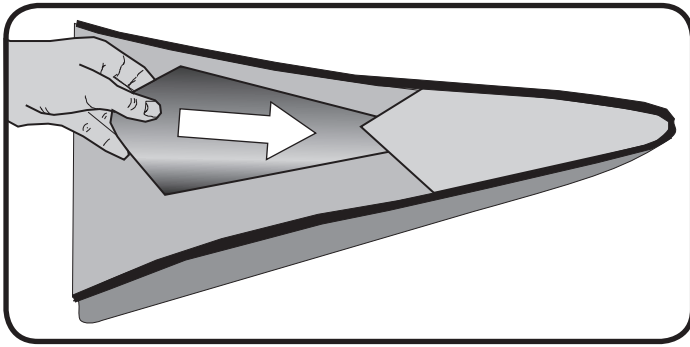

Figure 3. Plastic Bow and Stern Insert
7. Finally, Insert Plastic Bow and Stern forms into pocket on bow and stern (*Figure 3*).